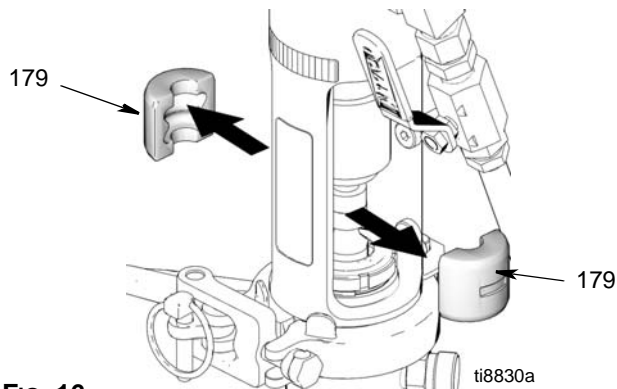

FIG. 16
6. (Fig. 16) Fjern stangmuffene (179).